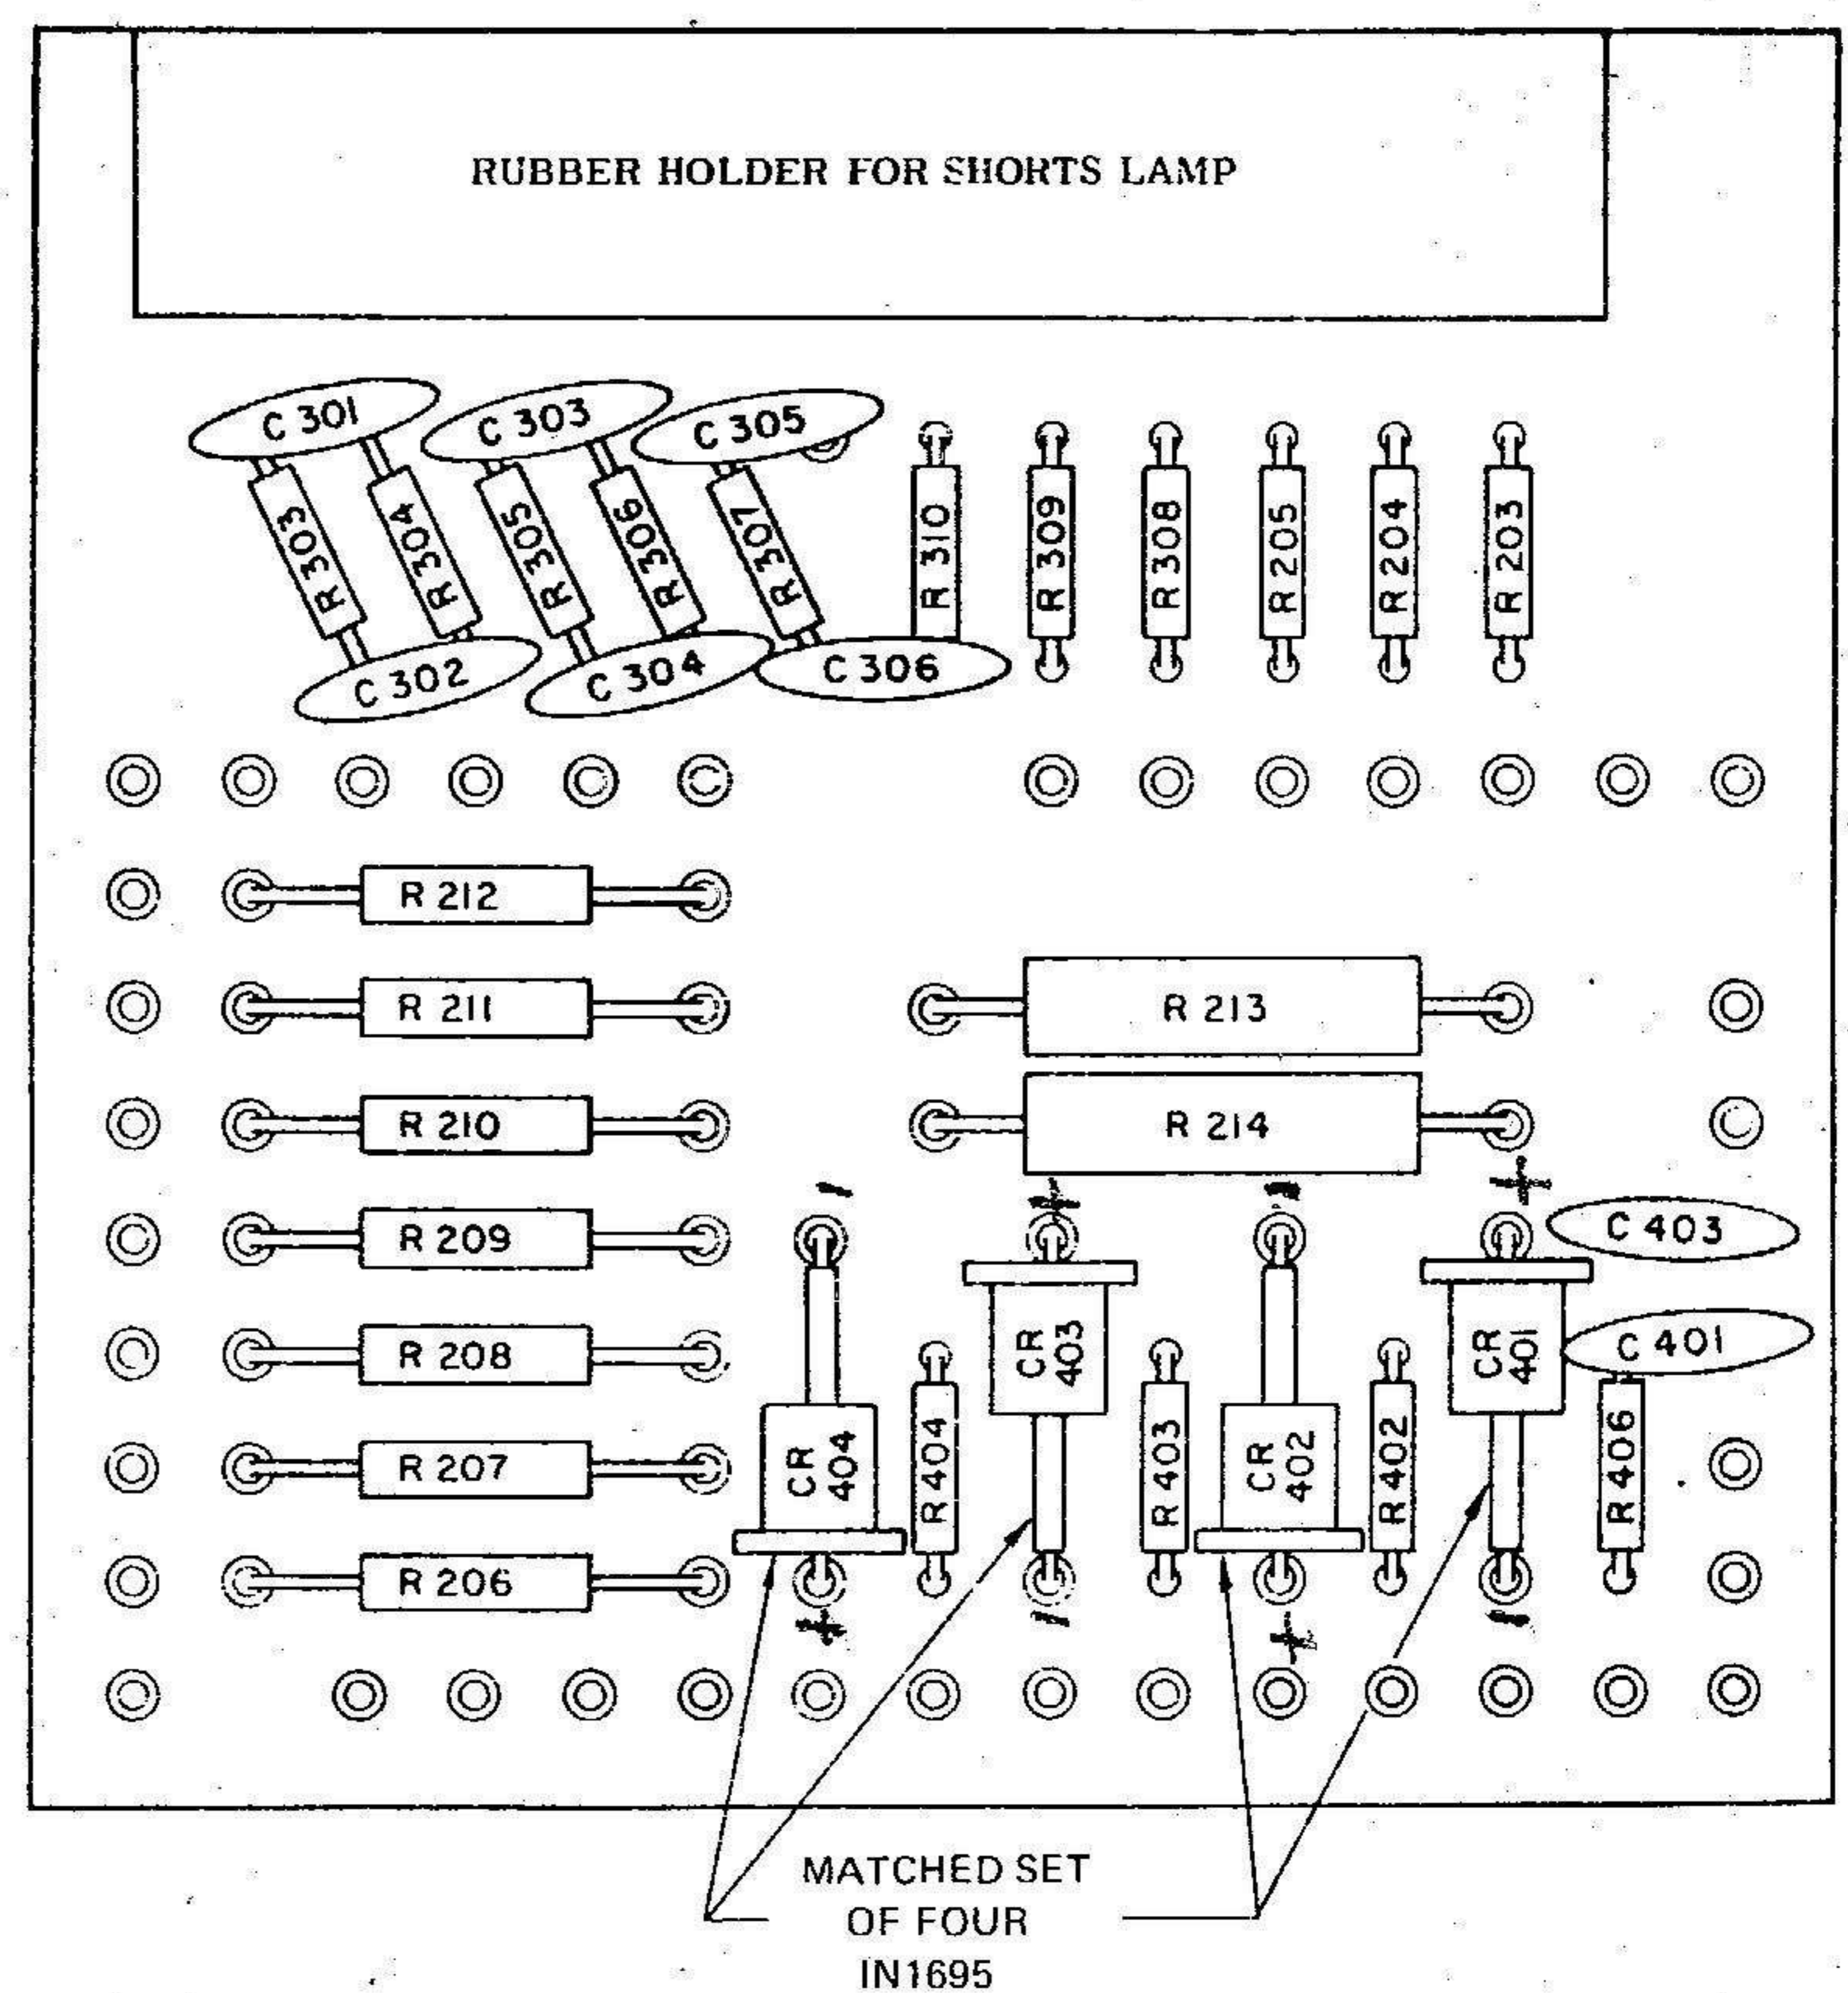

Figure 7. Printed Wiring Board
- When replacement is made the crystals must be physically mounted in the same manner as the ones that are removed. This arrangement is shown on the Printed Wiring Board component layout. Figure 7.